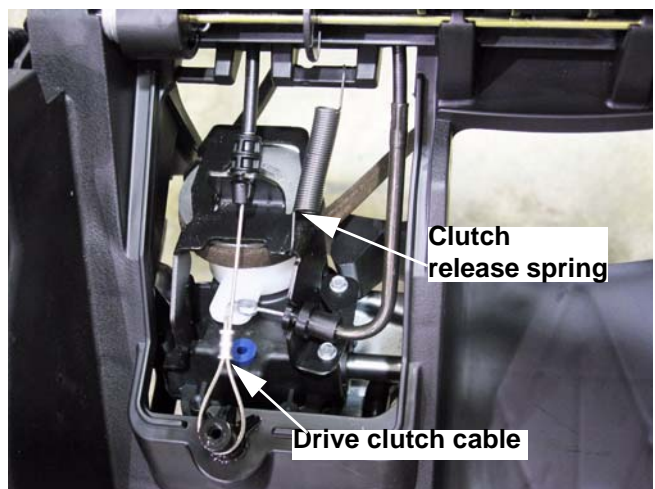

Figure 2.10
- Unhook the clutch release spring from the brackets that hold it, and remove it from the mower. See Figure 2.10.